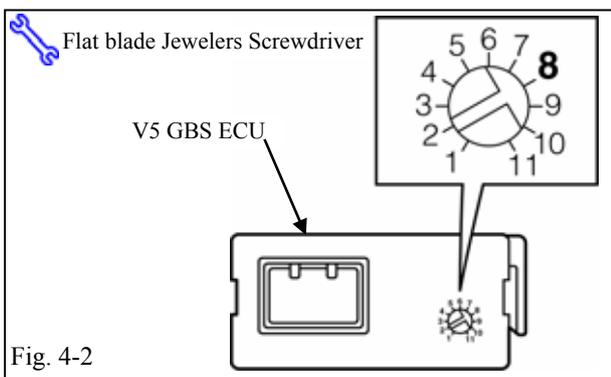

Fig. 4-2
- (b) Turn the adjustment screw on the V5 GBS ECU to the "8" position. (Fig. 4-2)